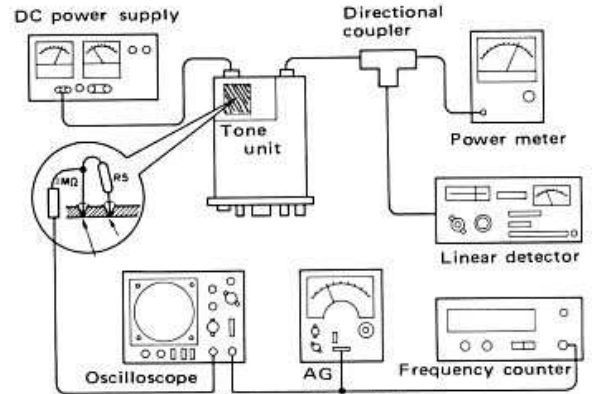

Fig. 27 Tone Unit Adjustment
- (2) Connect the test equipment to Fig. 27.
- (3) Adjust VR1 until the wave of oscilloscope reads circle.
- (4) Check that. Set the AUX switch is at OFF. Set the transceiver ready for transmission. The linear detector reads more than $\pm 2.5\ \text{kHz}$.
- (5) In case of T type, when change to transmitter from Receive. Adjust VR2 until take a modulation at 0.7 sec.